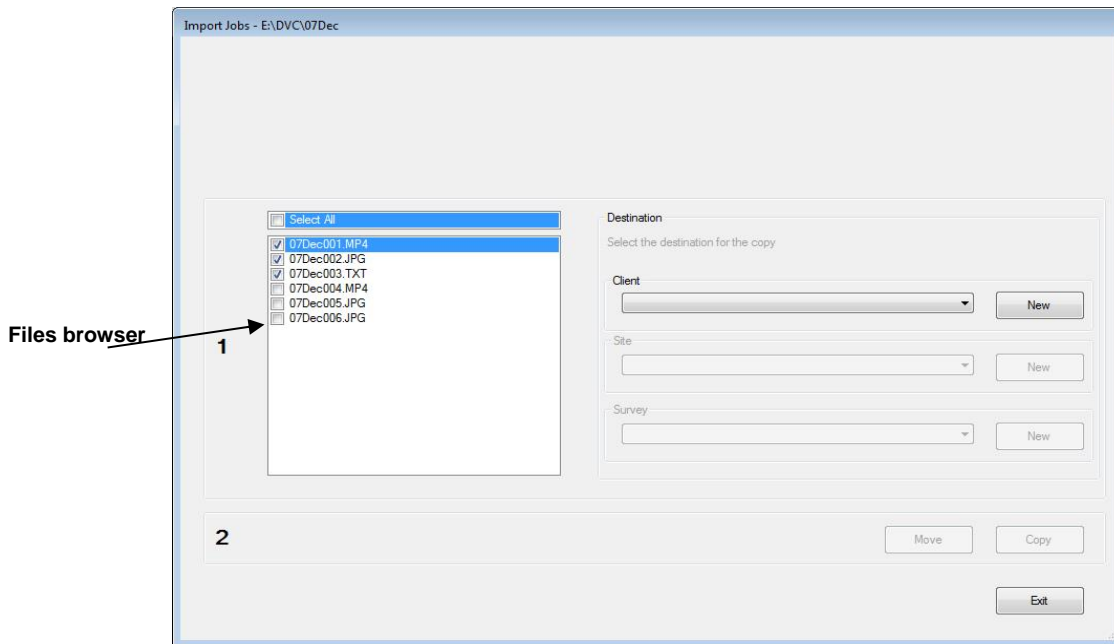

Figure 3.16 Import Survey Files screen – No survey report presents
5. Use the files browser in the Import Survey Files screen to select the survey files you wish to import into FSM (see Figure 3.16). You can use **Select All** to select all files or you can manually select individual files.